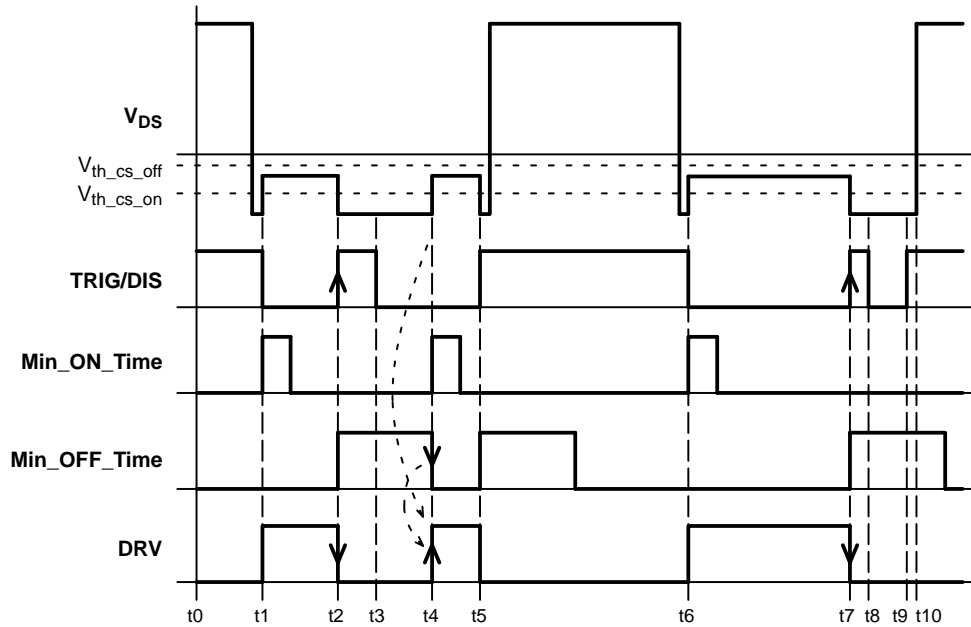

Figure 59. IC Behavior when Multiple Trigger Pulses Appear on TRIG/DIS Input
Figure 59 shows IC behavior in case the trigger signal features two pulses during one cycle of the  $V_{DS}$  (CS) signal. TRIG/DIS enables driver at time t1 and DRV turns ON because the  $V_{DS}$  voltage is under  $V_{th\_cs\_on}$  threshold voltage. The trigger signal and consequently DRV output fall down in time t2. The minimum OFF time generator is triggered in time t2. TRIG/DIS drops down to LOW level in time t3 but there is still minimum OFF time sequence present so the DRV output stays low. When the minimum OFF time